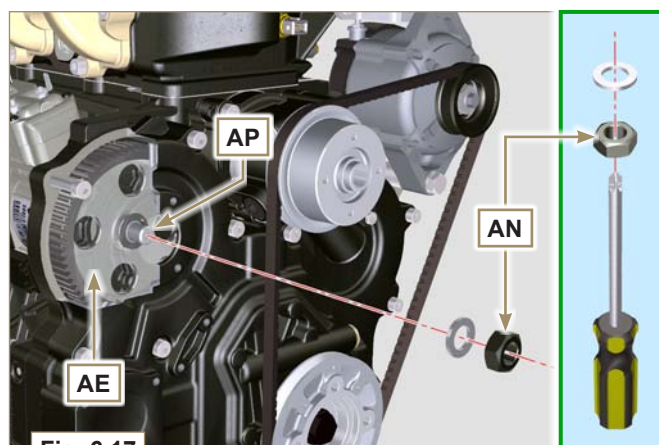

Fig. 6.17
- 3 - Ensure that the correct advance value has remained unchanged, tighten nut **AN** on shaft **AP** (as shown in **Fig. 6.17**, you are allowed to use a screwdriver to guide nut **AN** onto shaft **AP** in order to prevent it from accidentally falling inside carter **AQ** - tightening torque at **70 Nm**).